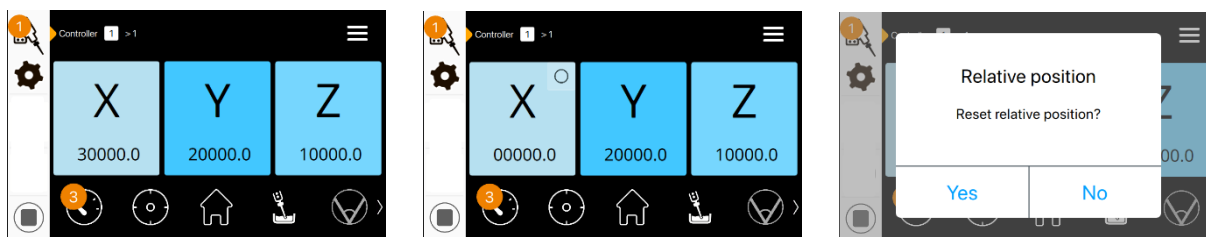

Figure 36. Relative coordinates
- Relative position mode is indicated by open circle at the top right corner of the axis information area (Figure 36, middle)
- To reset the relative position reference (i.e. to re-zero), long-press the open circle symbol and confirm in the pop-up dialog (Figure 36, right)